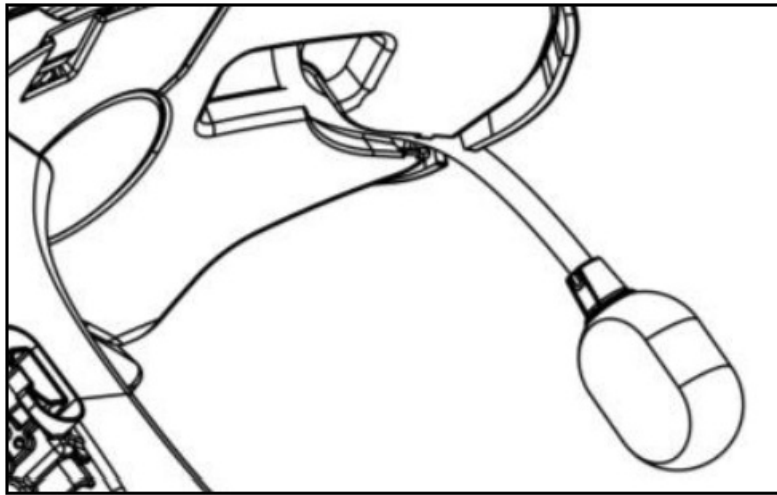

Fig. 9
- Position the microphone in the housing on the right of the helmet, inserting the boom pole of the microphone in the groove found in the chin guard coupling frame (Fig. 9). Caution: make sure that the side of the microphone supports the writing “n” is facing inward.